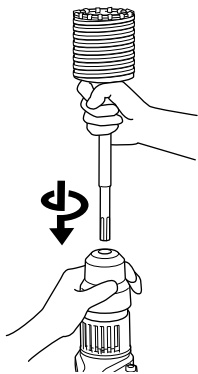

Fig. 31
- (2) Mount the core bit shank to the Rotary Hammer. (Fig. 31)